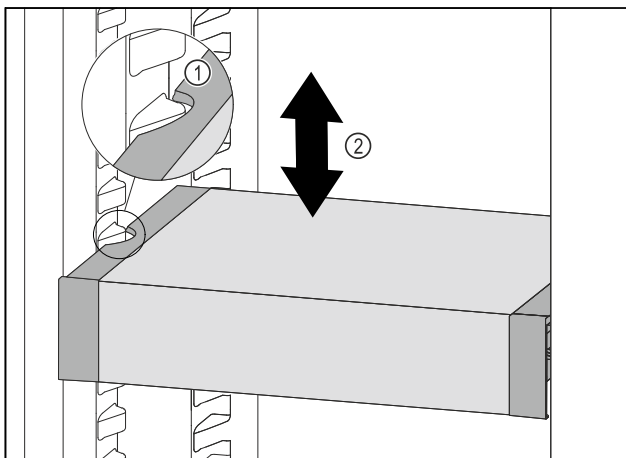

Fig. 84
- ▶ Pull VarioSafe forwards until the recesses in the side of the VarioSafe are at the level of the support rib in the refrigerator compartment. *Fig. 84 (1)*
- ▶ Move VarioSafe up or down in the refrigerator compartment until the desired height is reached. *Fig. 84 (2)*